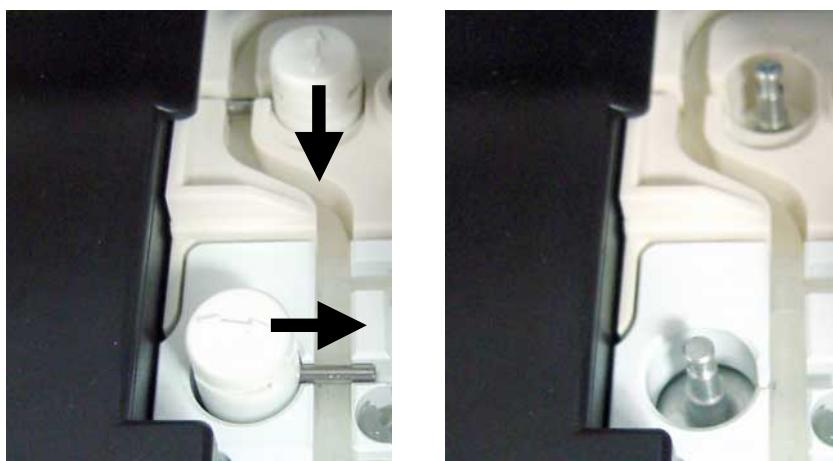
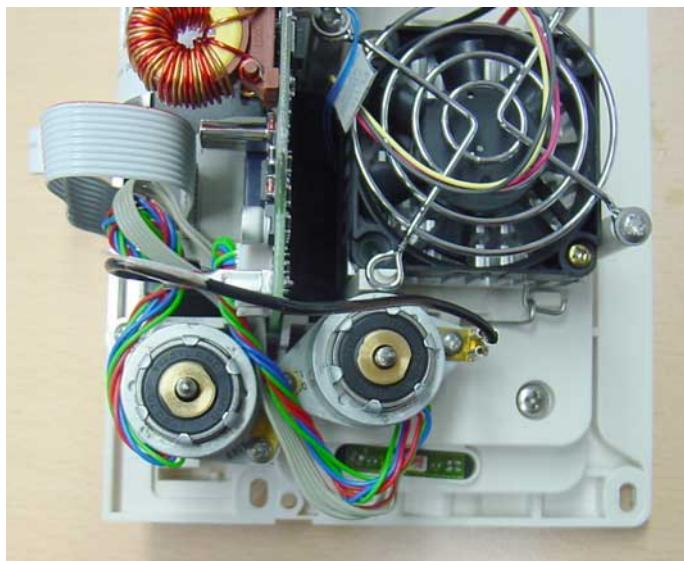

Fig. 3-16 Measuring chamber actuators
Fig. 3-17 Measuring chamber actuators (rear view)
2. The holders of the valve heads can be dismounted only in one direction. Turn the holders into the positions according to Fig. 3-16.
3. To disengage the holders, press into the direction of the arrows at Fig. 3-16. If necessary, move the valve head by turning the brass disk at the backside of the valve (see Fig. 3-17).
4. Open the mounting screws at the rear of the measuring chamber actuators (see Fig. 3-17) and take out the actuator.
5. Pull off the cable connection from the analog board (see Fig. 3-17).